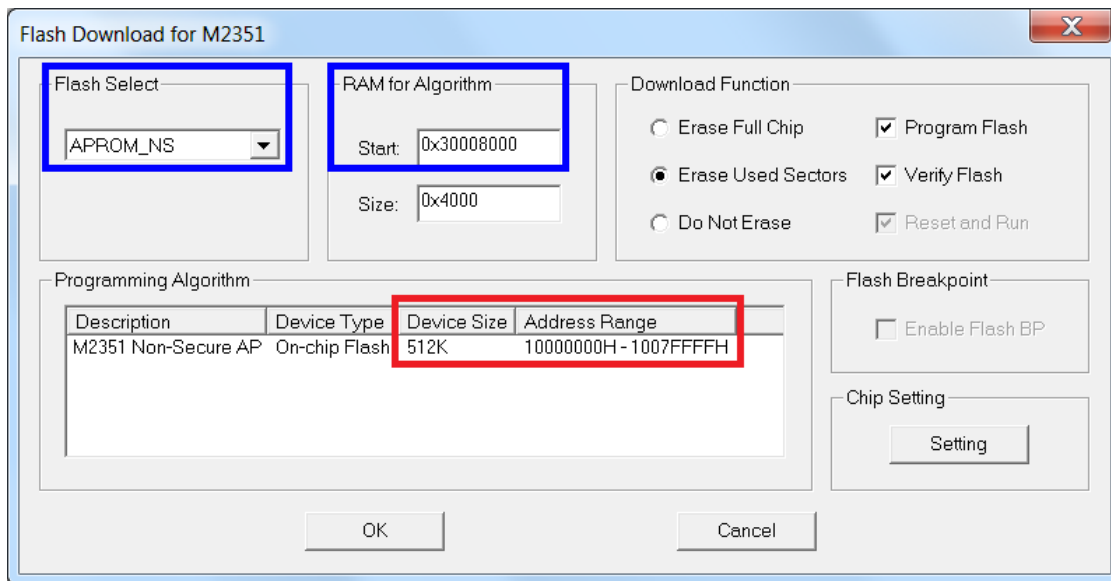

Figure 3-4 Check Download Setting in Keil® MDK
- Click [Options for Target – Utilities] and click [Setting] button, and then Flash Download page will appear as shown in Figure 3-4.